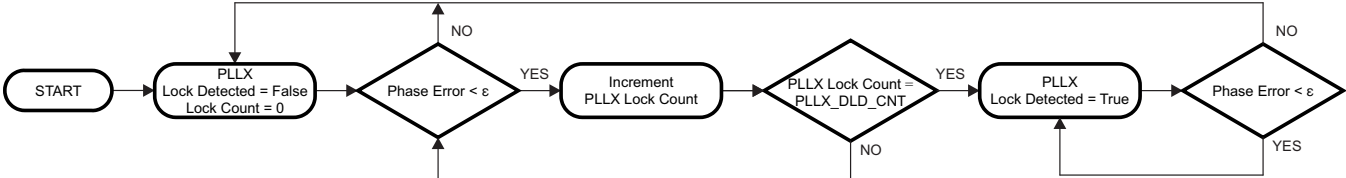

Figure 11. Digital Lock Detect Flowchart
Both PLL1 and PLL2 support digital lock detect. Digital lock detect compares the phase between the reference path (R) and the feedback path (N) of the PLL. When the time error, which is phase error, between the two signals is less than a specified window size (ϵ) a lock detect count increments. When the lock detect count reaches a user specified value, PLL1_DLD_CNT or PLL2_DLD_CNT, lock detect is asserted true. Once digital lock detect is true, a single phase comparison outside the specified window causes digital lock detect to be asserted false. This is illustrated in Figure 11.